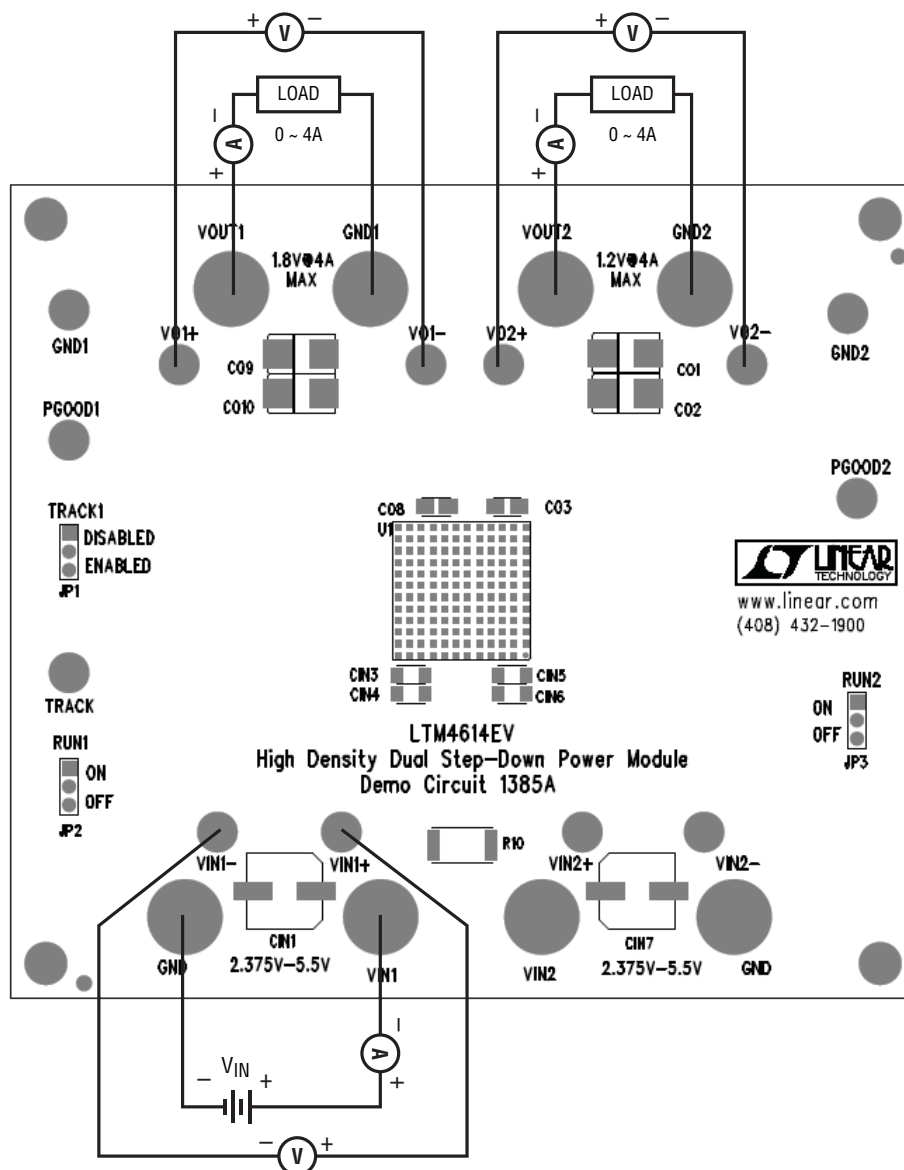

Figure 1. Test Setup of DC1385A
Demonstration circuit DC1385A is an easy way to evaluate the performance of the LTM4614EV. Please refer to Figure 1 for proper measurement equipment setup and follow the procedure below:
2. With the power off, connect the input power supply, load and meters as shown in Figure 1. Preset the loads to 0A and V_{IN} supply to be less than 5.5V.